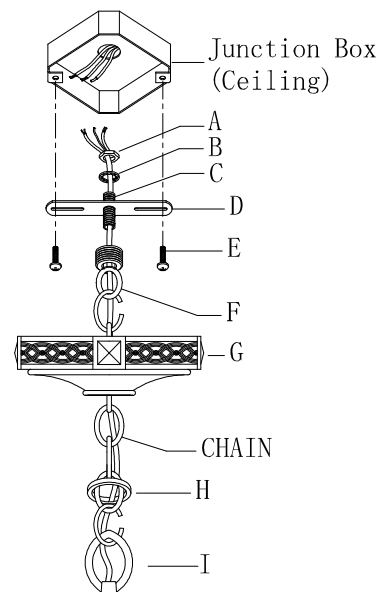

Fig.2
ASSEMBLING THE FIXTURE (Fig.2).
1. Return the five arms to suitable position, see figure.2.
2. Attach the fixture body (A) to the fixture body (E) by turning it clockwise until tight.
3. Attach the finial (F) to the fixture center body (E) by turning it clockwise until tight
4. Place the glass shade (D) and the collar ring (C) onto the socket of the fixture body (E), then lock it securely with the check ring (B).